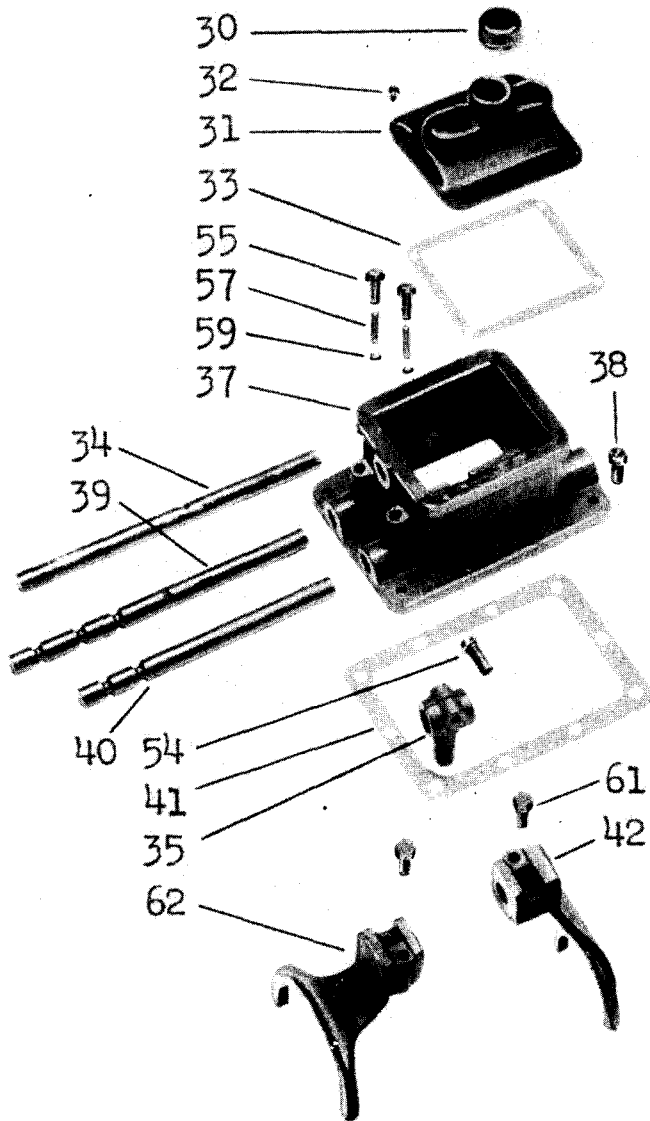

Fig. 18 - Gear Shift Box
**DISASSEMBLY OF GEAR SHIFT HOUSING (Figures 18 and 19)**